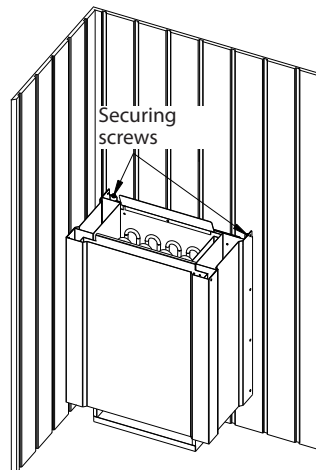
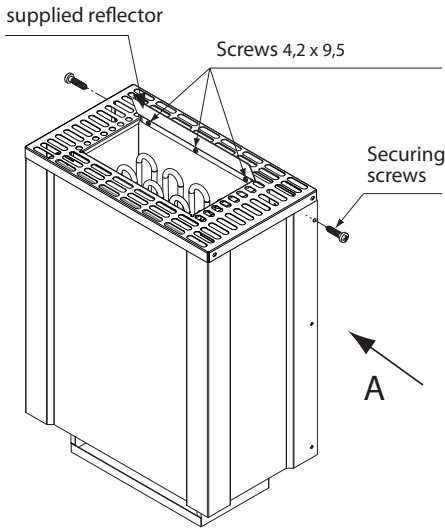

Fig. 6
Fig. 7
- ▶ Secure the heater on the sauna wall behind it using 2 screws through the holes in the rear upper edge of the heater (see fig. 6) or alternatively secure it to the side wall, as shown on fig. 7.